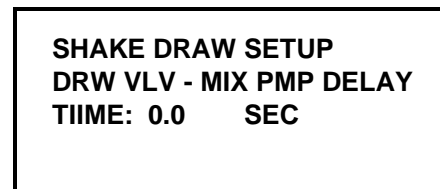

Figure 100
4. After the SPNR-DRAW VLV DELAY time has elapsed, the draw solenoid is powered to open the draw valve. The mix pump can be delayed from starting after the draw valve opens by the DRW VLV-MIX PMP DELAY. Recommended setting: 0.0 seconds. (See Figure 100.)